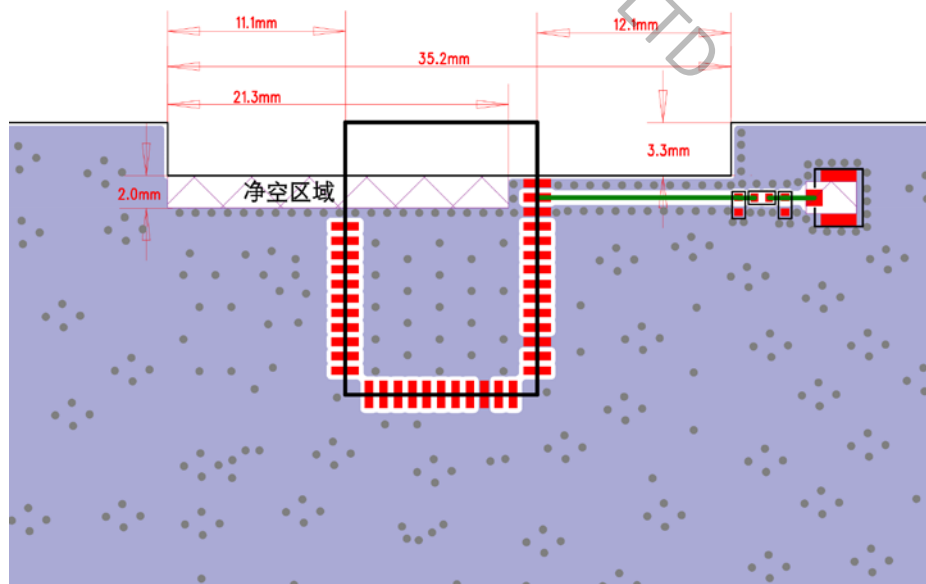

Figure 9-2-1: Module Layout - Baseboard TOP Layer
**Recommendation 1:** Place the module in the middle of the main board (**the customer's baseboard must be hollowed out**). The TOP layer layout is shown in Figure 9-2-1: